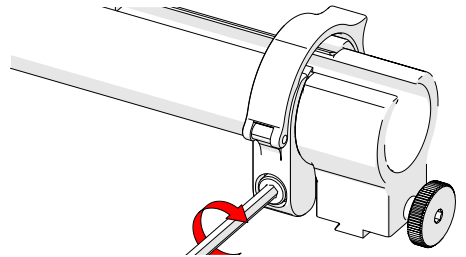

Fig. 109 - Tighten clamp screw
4. Tighten the clamp screw (*Fig. 109*).